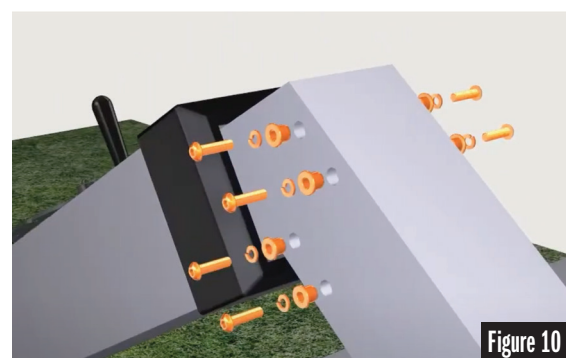

Figure 10
- Slide the Base Pole into the Extension Arm and secure the hardware in the same order. Hand tighten only. See Figure 10. Note: Use of impact driver may damage threads and is not recommended.